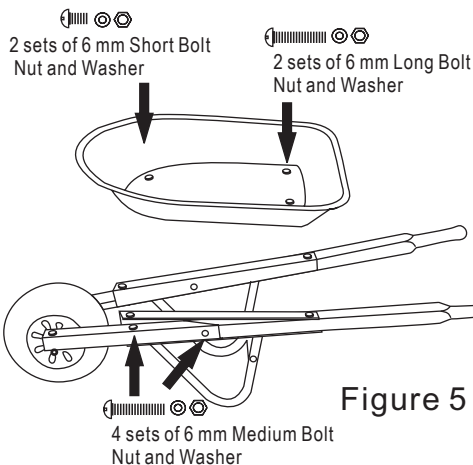

Figure 5
Step 4: Attach the Pan and Handles Supporter, using TWO 6mm Short Bolt Nut & Washer Set on front. Secure by wrench. As shown at Figure 5.
Step 5: Attach the Pan and Handles Supporter, using TWO 6mm Long Bolt Nut & Washer Set on the rear. Secure by wrench. As shown at Figure 5.